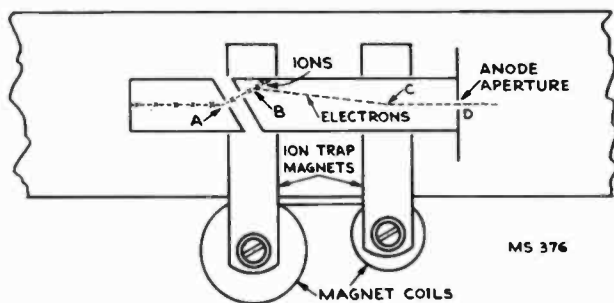

Figure 17—Kinescope Gun and Ion Trap
**KINESCOPE (block #6)**—The kinescope is a 10" tube employing a new type screen material which provides considerably improved picture brilliance. The tube employs magnetic deflection and magnetic focus. An ion trap is employed to prevent the ion beam from producing a brown spot on the screen. Electrons and ions emitted from the cathode start toward the anode as shown in Figure 17. The non-symmetrical electrostatic field created by the angular cut on the electron gun and first anode, cause the ions and the electron beam to be bent at "A."